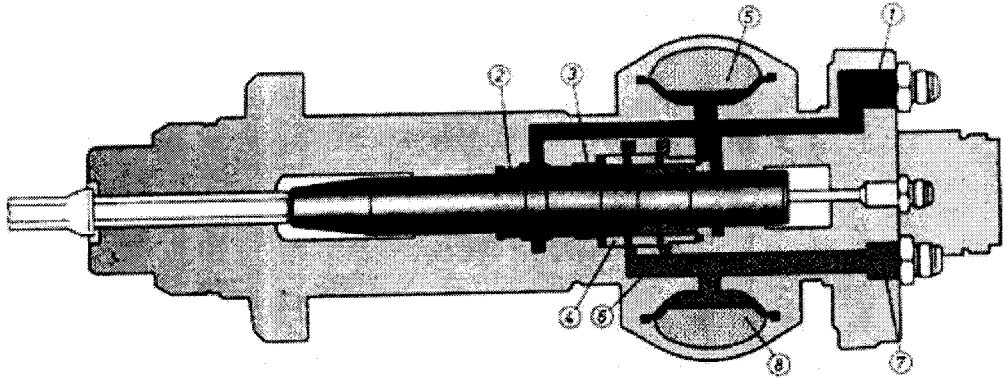

Figure 7.1
- 7** With the help of Figure 7.1 in the Appendix, fill-in the *missing information and/or bracketed label numbers* in the passages which partially describe working principles of a drifter. **(NOTE!! Submit the appendix page)**
The diagram in Figure 7.1 indicates a \_\_\_\_\_ drifter. The piston is shown at the end of its stroke. The hydraulic oil enters the drifter through the \_\_\_\_\_ (1) and flows into the front part of the cylinder ( ). It forces the piston \_\_\_\_\_ and at the same time enters the distributor chamber (3) pushing the \_\_\_\_\_ (4) to the rear position. A part of the oil delivery enters the high pressure accumulator ( ) compressing its nitrogen and thus accumulating \_\_\_\_\_. In this position the oil in the rear part of the cylinder escapes through port 6 to the return port ( ). The \_\_\_\_\_ ( ) functions similarly to prevent shock loads in the return hoses.